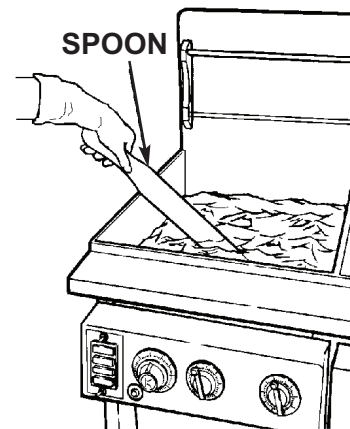

FIGURE 5. STIR WITH SPOON PROVIDED TO REMOVE WATER
- Use spoon provided to stir oil. Bubbling will occur until all water is removed. Refer to Figure 5.